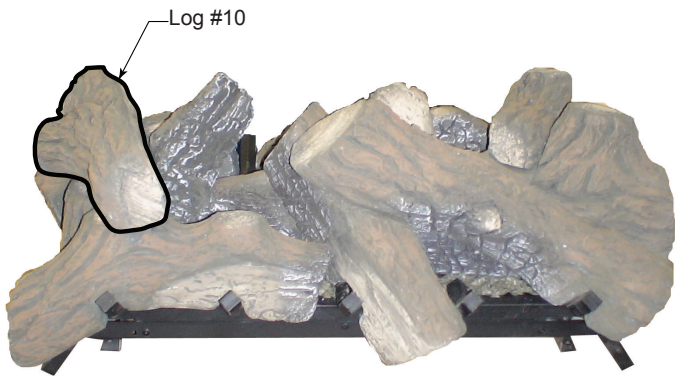

Figure 10 - Place Log #10
- Place log #10 by aligning two (2) rectangular notches on bottom of log with rectangular protrusions on logs #6 & #7. Make sure the ember or 'burnt' area of log is facing center of burner. *Figure 10*